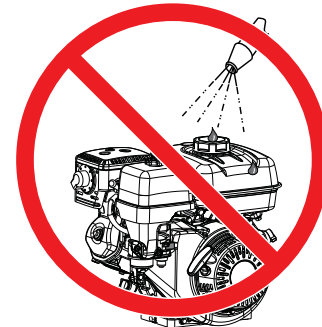

Figure 45. No Spraying of Water
**NEVER** pour or spray water over the engine (Figure 45).